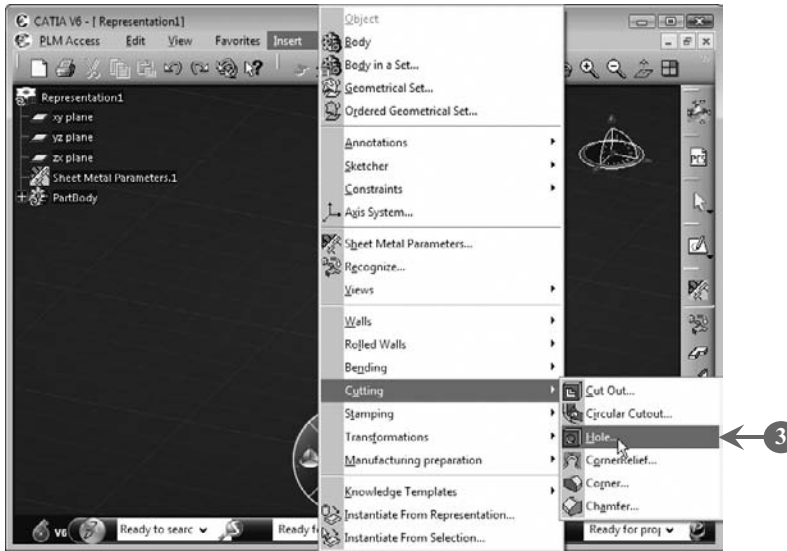

FIGURE 6.84
3. **Select Insert > Cutting > Hole** from the menu bar to create a hole, as shown in **Figure 6.84**: